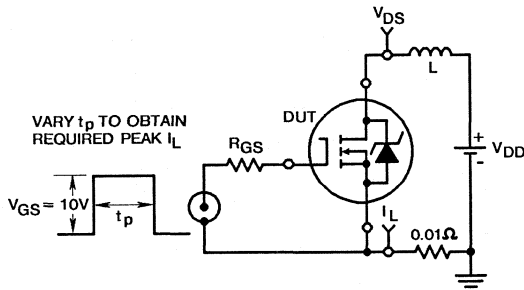

FIGURE 14. UNCLAMPED ENERGY TEST CIRCUIT
4. $V_{DD} = 50\text{V}$, starting $T_J = +25^\circ\text{C}$, $L = 11\text{mH}$, $R_{GS} = 50\Omega$, $I_{PEAK} = 8.8\text{A}$. See Figures 14 & 15.
4. V_{DD} = 50V, Start T_J = +25°C, L = 11mH, R_{GS} = 50Ω, I_{pPEAK} = 8.8A (See Figures 14 & 15)
(See Figure 14, $L = 100\mu\text{H}$)